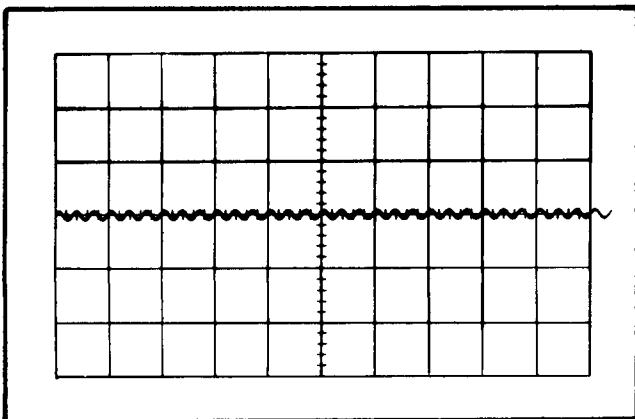

Fig. 5-17. Typical CRT display when checking low-frequency reject operation at 30 kilohertz.
c. CHECK—Stable CRT display (see Fig. 5-17) can be obtained with the A LEVEL control.
i. CHECK—Stable CRT display (see Fig. 5-17) can be obtained with the B LEVEL control.